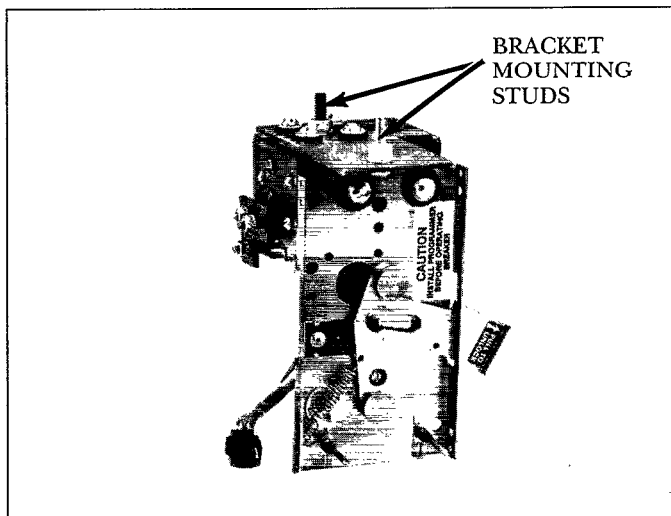
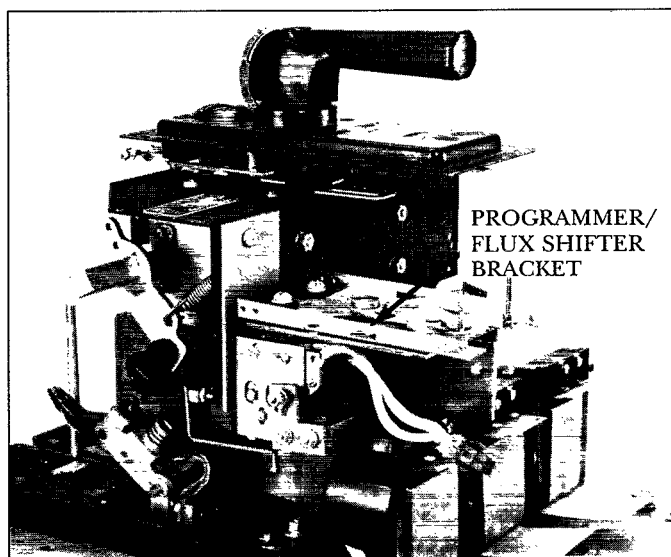

Fig. 14. Programmer/Flux Shifter Assembly
Fig. 15. Assembly Mounted to Breaker Frame
Place the rejoined breaker on its back. Mount the new programmer/flux shifter bracket assembly (Fig. 14) to the breaker frame using the existing holes and the hardware provided (Fig. 15). The assembly is mounted under the left side of the front frame. Secure with (2) ¼-20 nuts and lock washers on the top side of the frame.